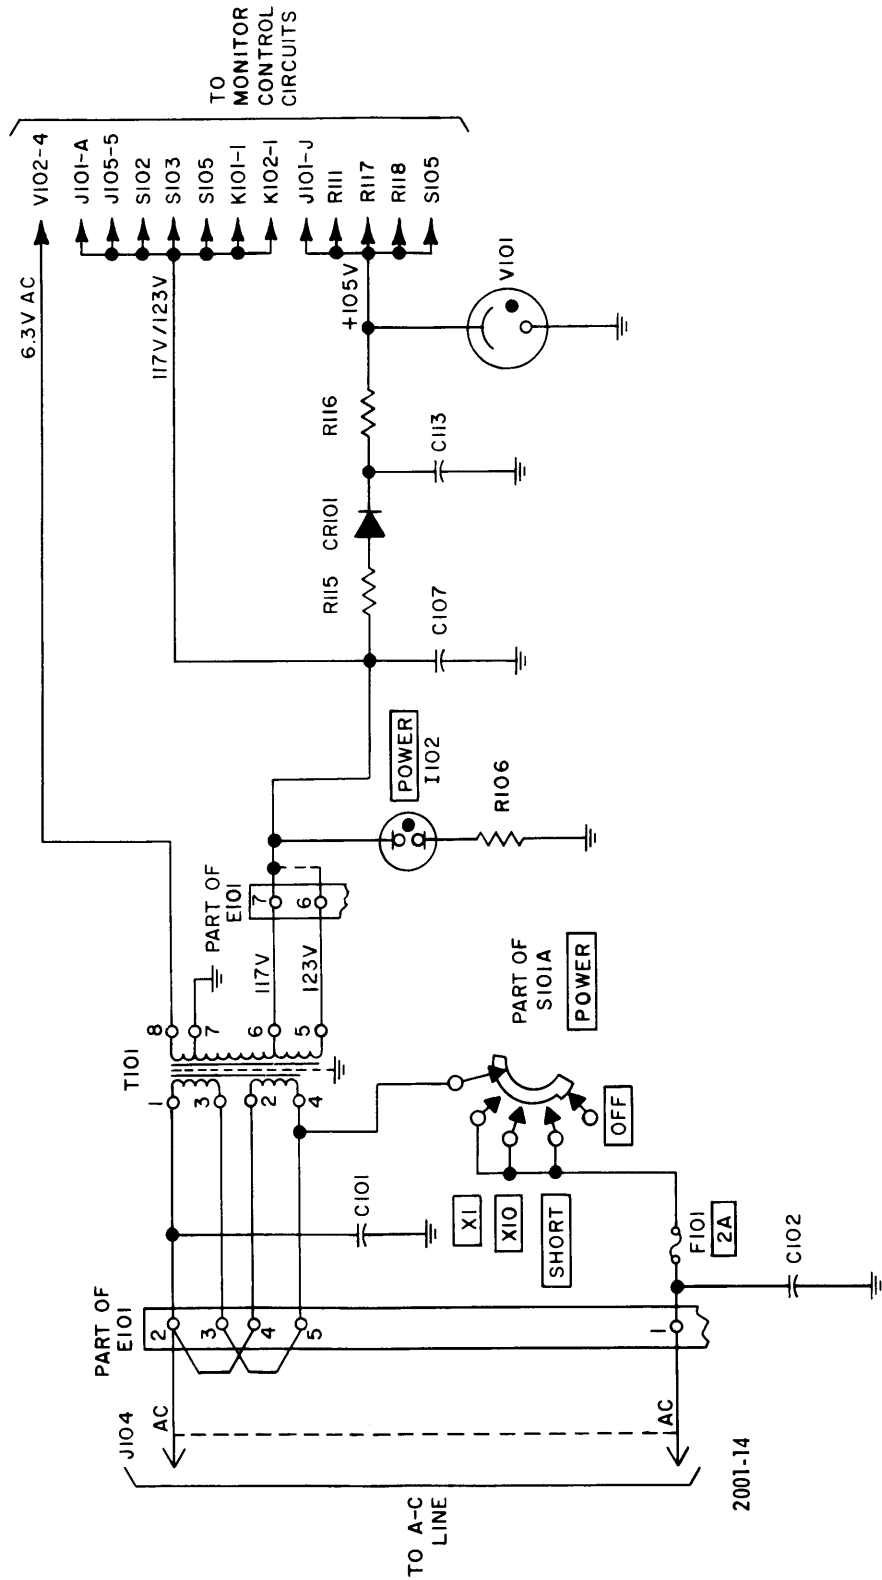

Figure 4-5. Power Supply Circuit, Simplified Schematic Diagram
a. POWER SUPPLY CIRCUIT. - The power supply circuit, Figure 4-5, provides operating voltages for the circuits in the monitor control and antenna tuner. The circuit operates on 115- or 230- volt ac, 60-cycle, single phase power.